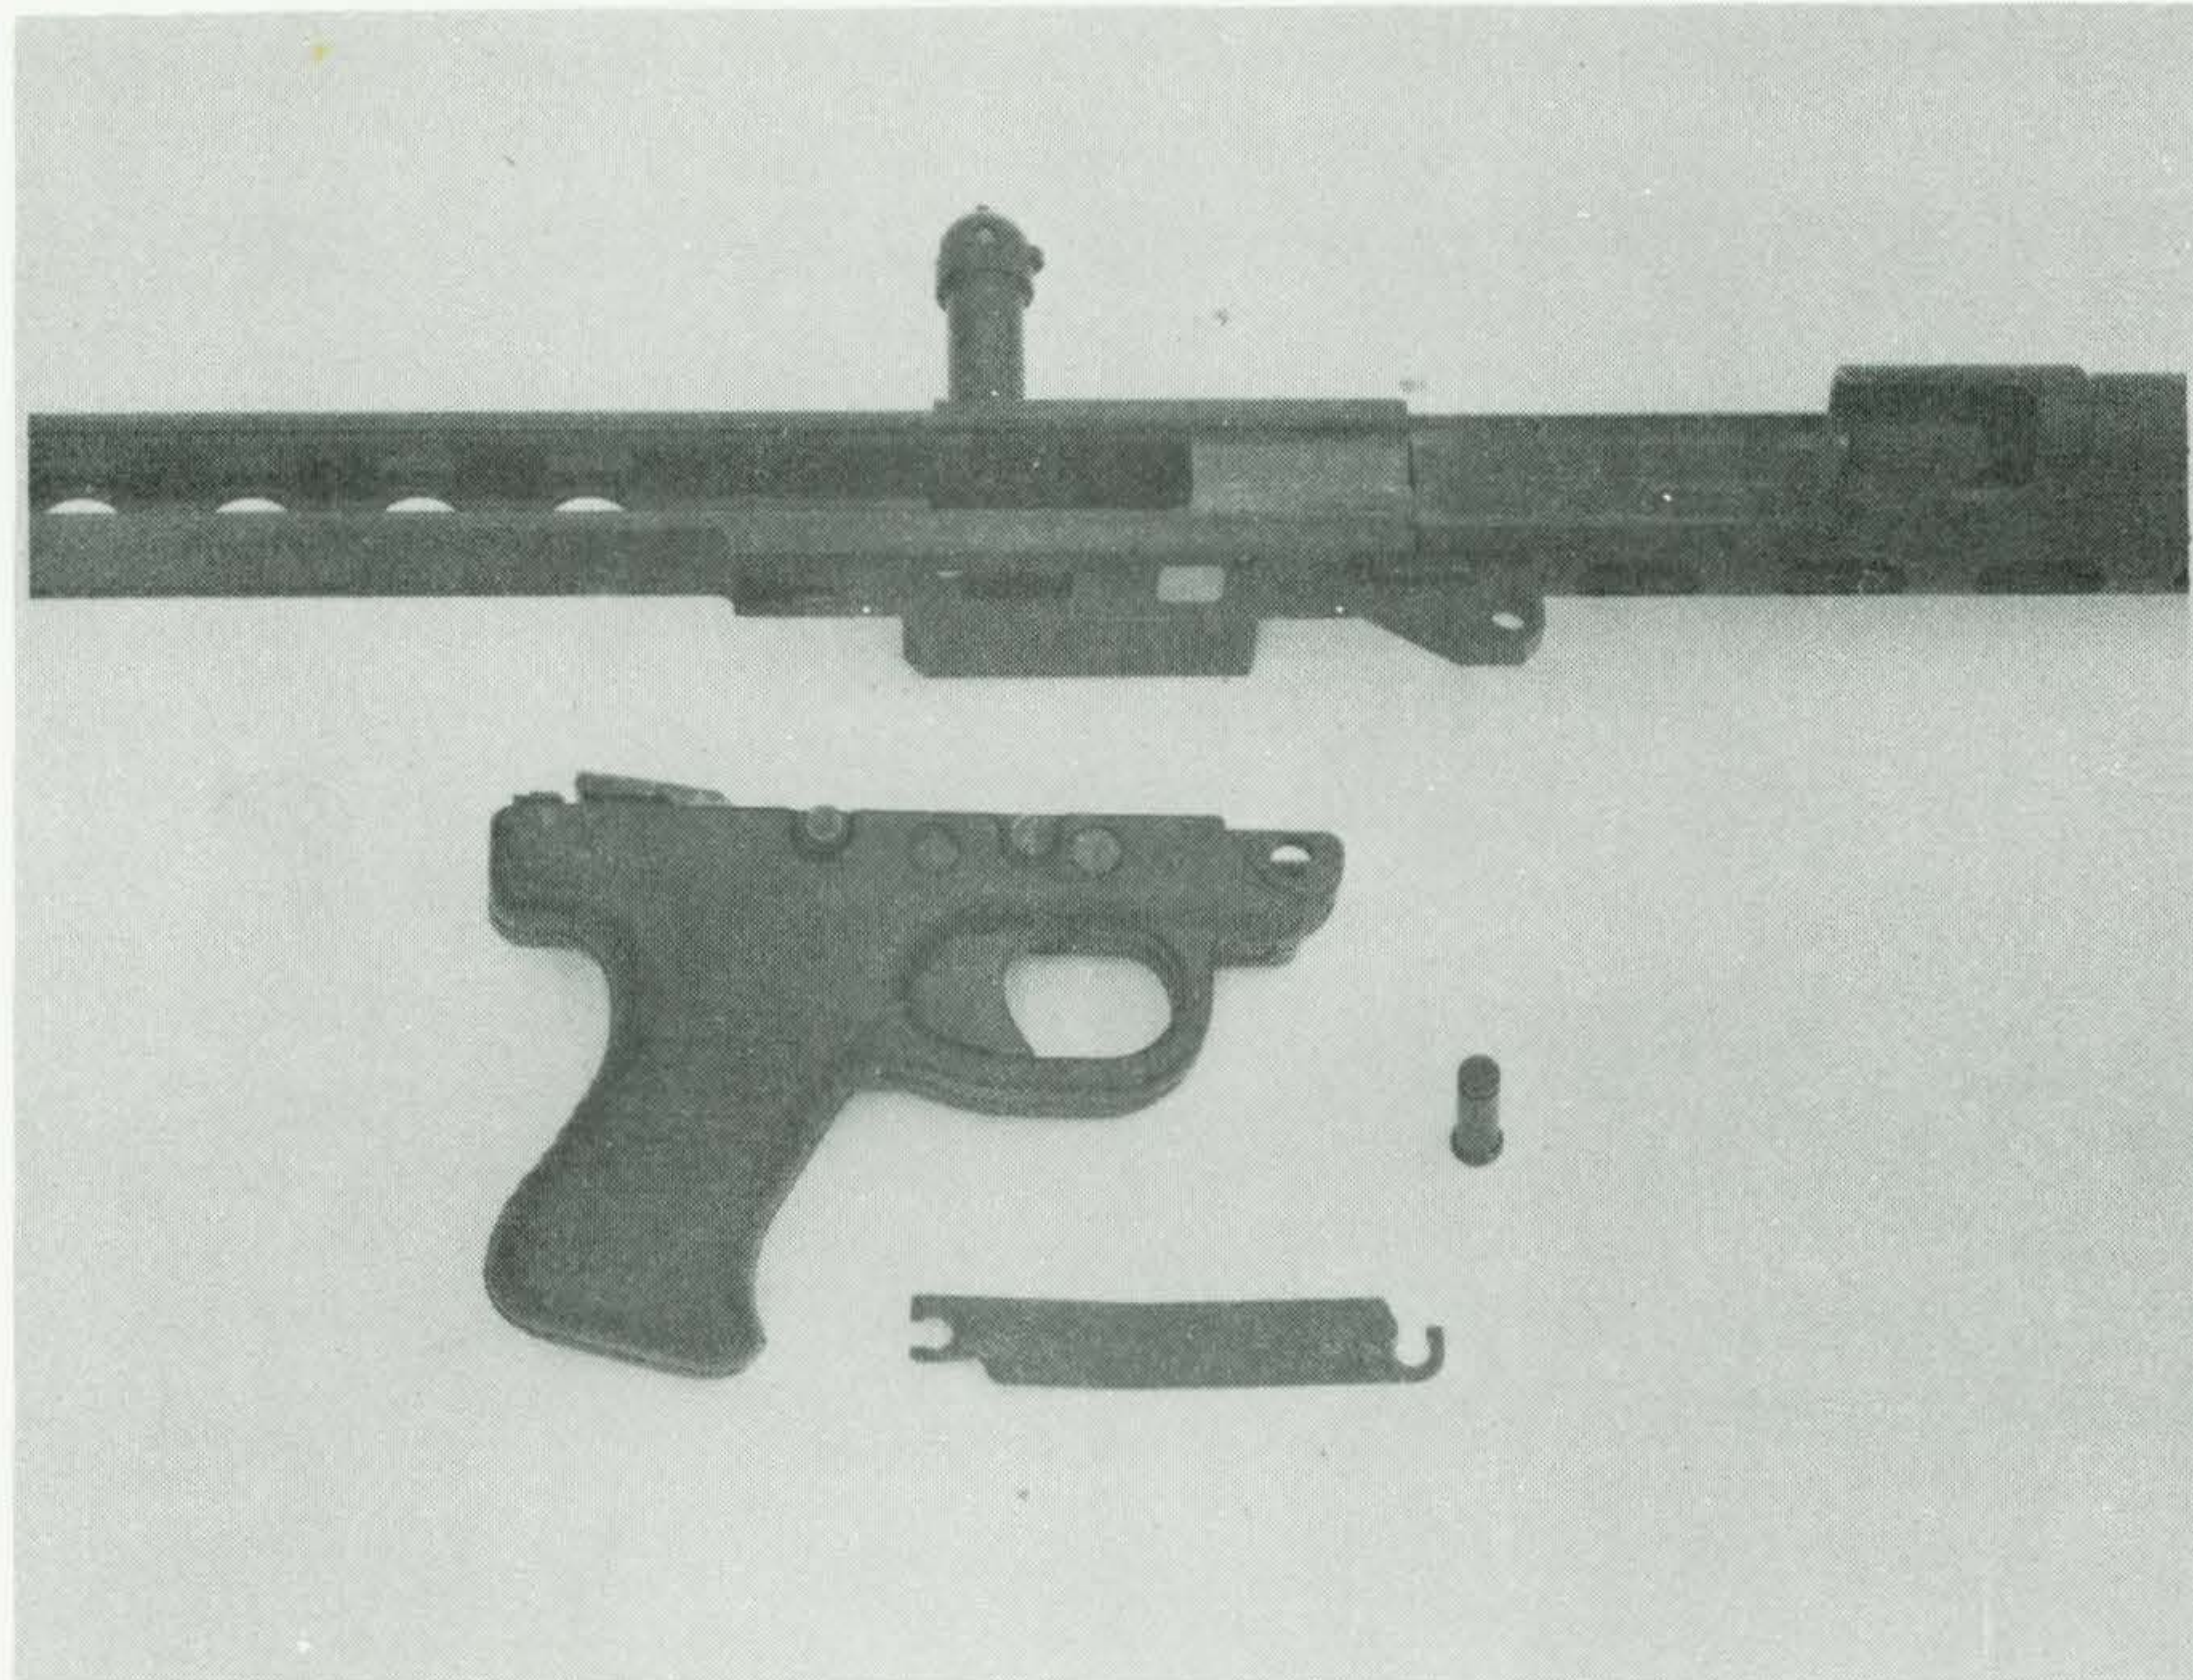

FIGURE 17. TRIGGER GROUP REMOVED
c) Pull trigger and slide trigger assembly rearward and remove (Figure 17).